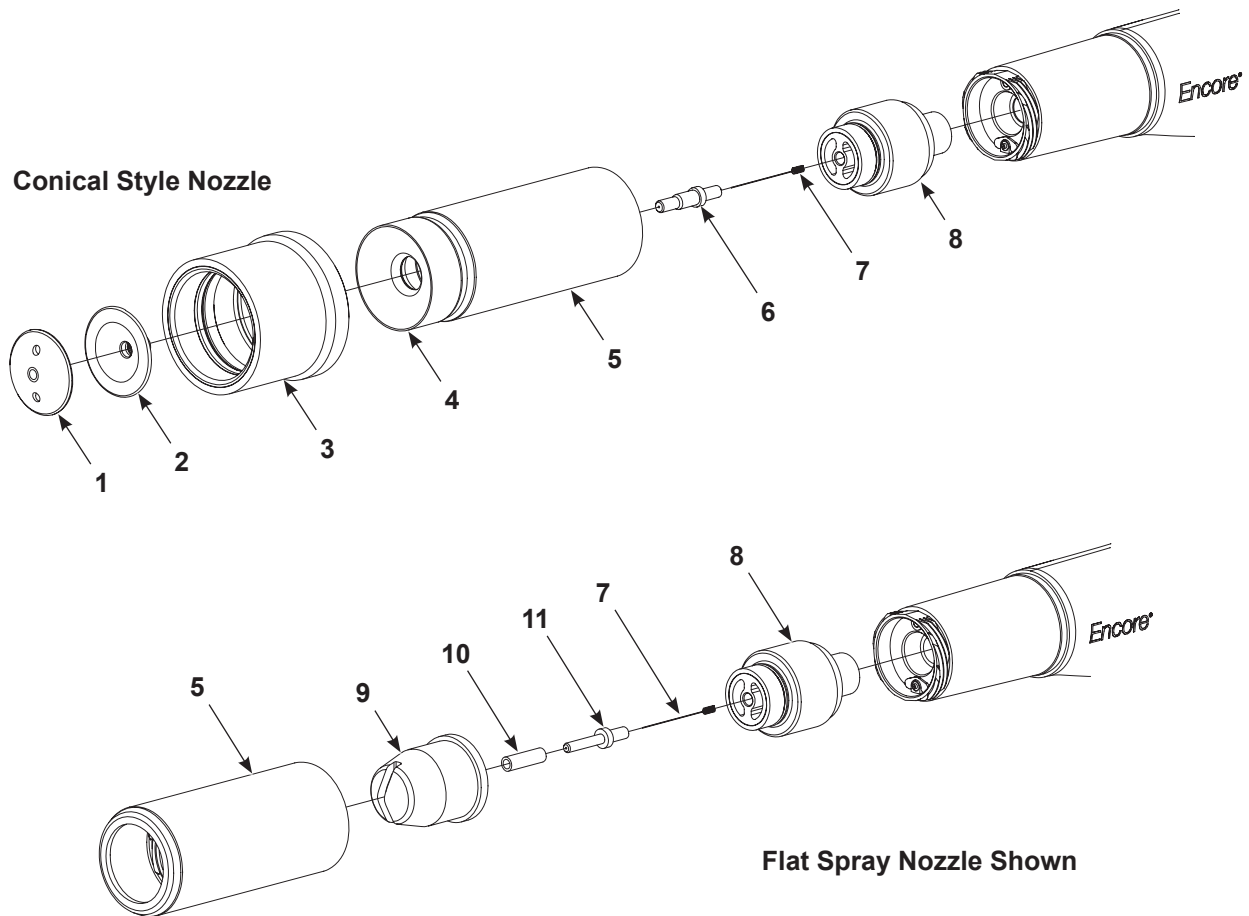

Figure 7 Changing From Conical to Flat or Corner Spray Nozzle (shown with Flat Spray Nozzle)
See Figure 7. To change from the standard conical nozzle to a flat or corner spray nozzle, the following items should be ordered:
3. See Figure 7. Remove the nozzle from the gun: